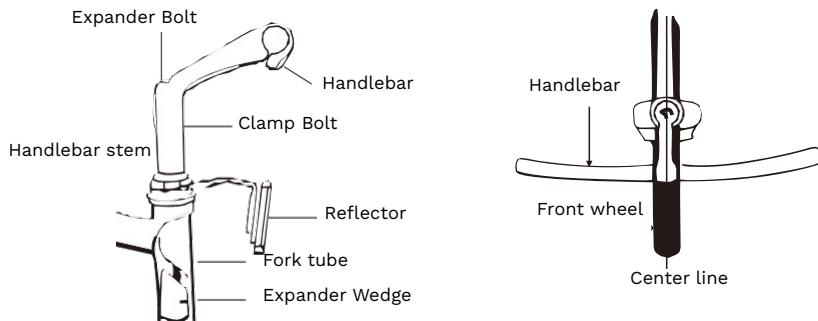

fig. 10 Handlebar and Handlebar Stem Assembly
2. Align the handlebar stem with the front wheel (see fig.10). Tighten securely the expander bolt with an adjustable wrench. Note: Some models require a 6mm allen key. (Tightening torque: 18N.m or 14 footlbs.torque)
6. Be sure that your handlebar and stem assembles are properly tight before riding. The handlebar should not rotate in the stem. When you straddle and grip the front wheel between your knees, the handlebar should not be able to turn when you apply pressure horizontally. Refer to (fig. 10)